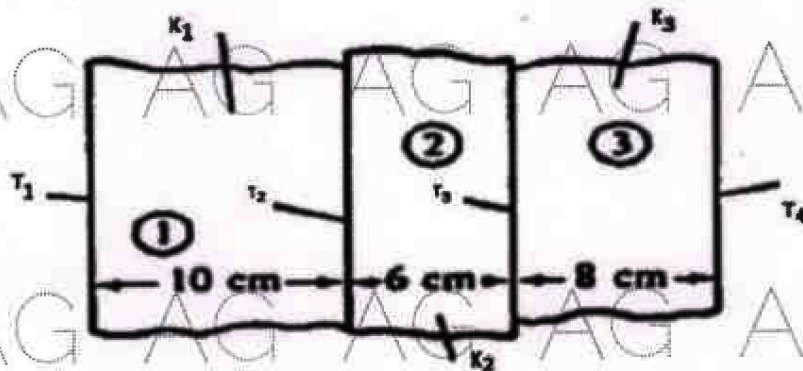

Figure 3
7. For the composite wall shown in the figure 3 below, compute the interface temperatures considering three elements. Take  $K_1=5$  W/m-K,  $K_2=0.6$  W/m- K,  $K_3=20$  W/m- K,  $T_1=100^\circ\text{C}$ ,  $T_4=400^\circ\text{C}$ . [15]